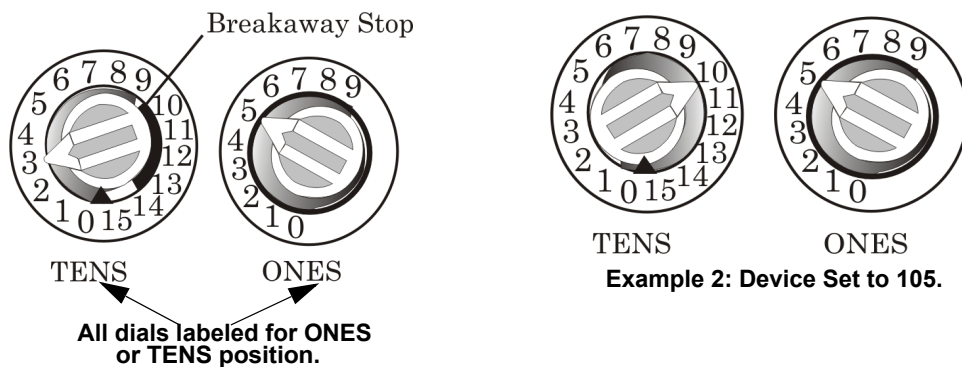

Figure 7.4 IDP or SK SLC Device Addressing Using Rotary Dials
**Example 1:** To select device address 35, turn the *ONES* rotary dial to **5** and the *TENS* rotary dial to **3** as shown in Figure 7.4.
**Example 2:** To select device address 105, turn the *ONES* rotary dial to **5** and the *TENS* rotary dial to **10** as show in Figure 7.4.